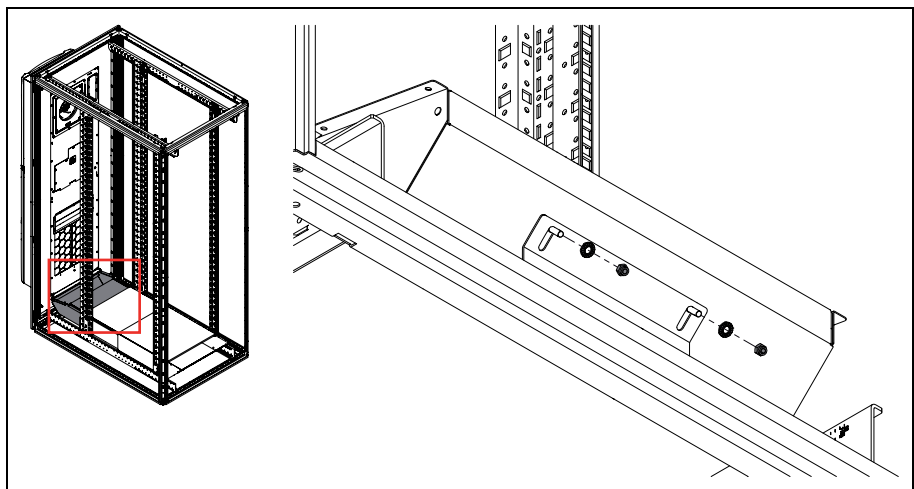

Fig. 17: Attach the air duct to the rear angle bracket
- Secure the air duct using two Polystop nuts (Polystop nut M5), each with one contact washer (contact washer NZ/5,1 serrated) (fig. 17).